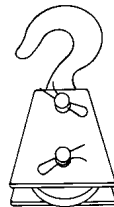

Figure 15
3. **USE A PULLEY BLOCK FOR HEAVY LOADS.**To maximize winch and wire rope life, use a pulley block to double line heavier loads (Figure 15).